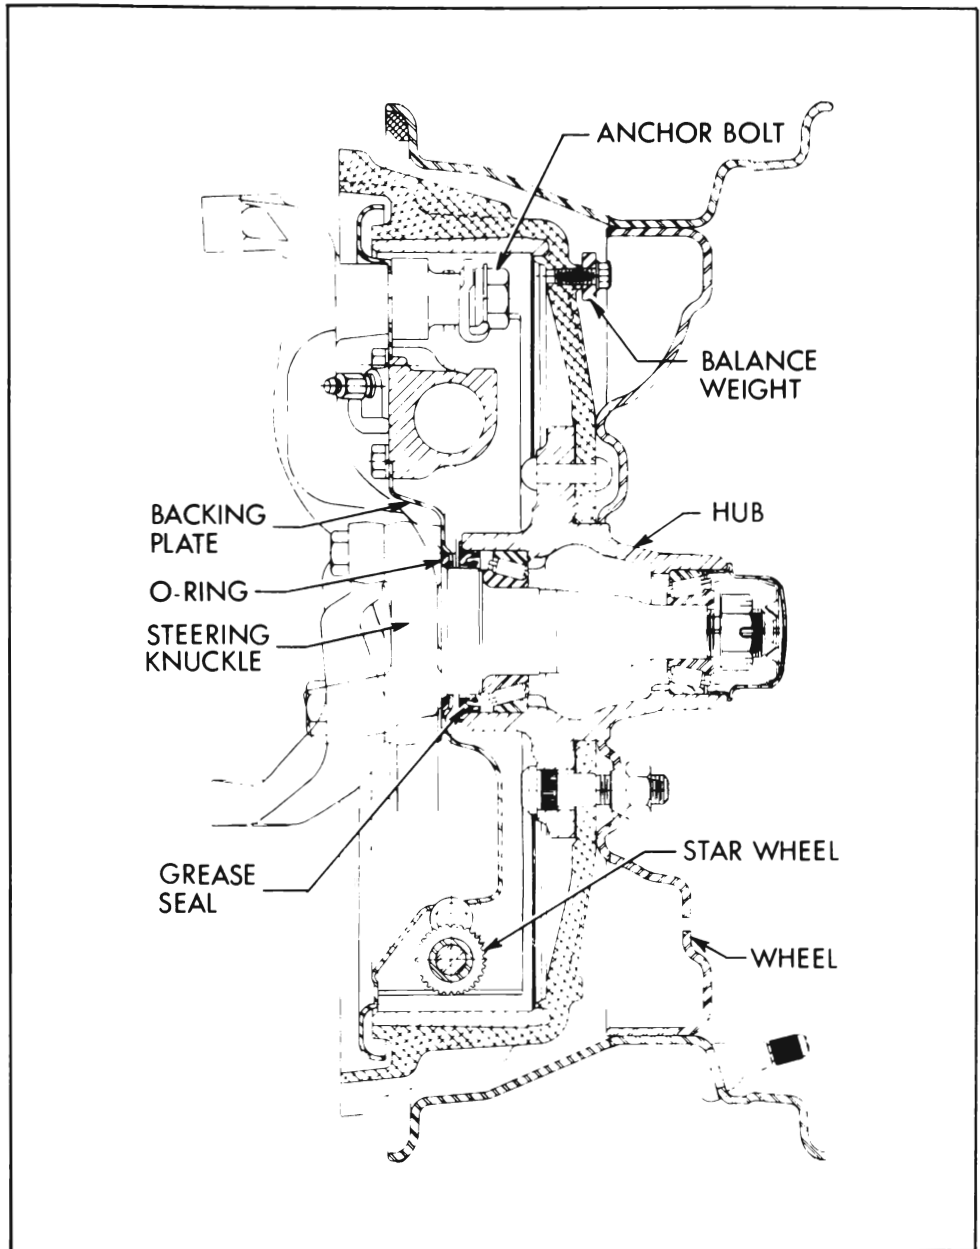

Figure 7-10—Front Wheel and Hub Bearings
9. Install wheel on spindle, then install outer bearing assembly, cone, safety washer and nut. See Figure 7-10.